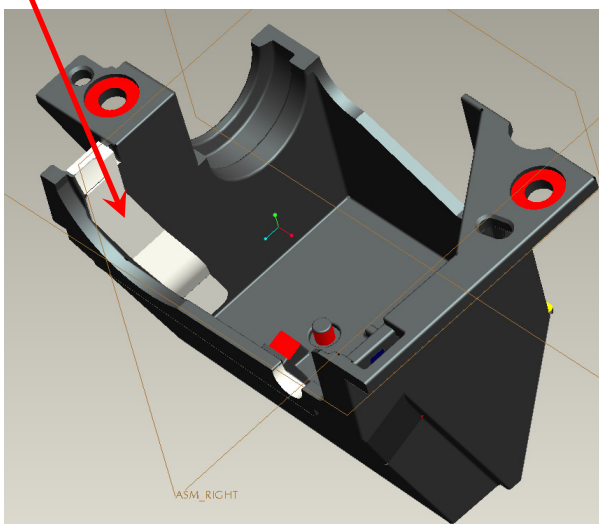
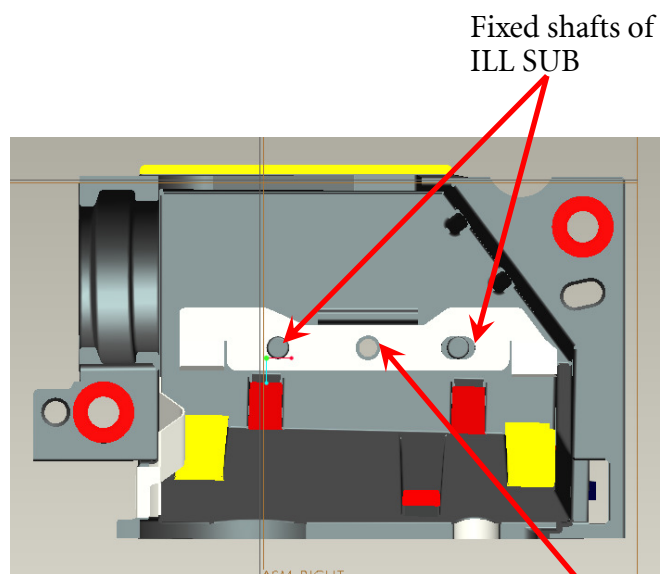

Fig. 3-1
Fig. 3-2
- Insert “Clip CM Side” first, and then place “Clip Front CM” to fixed-shaft of ILL SUB before locking screw (Fig. 3-1, Fig. 3-2).